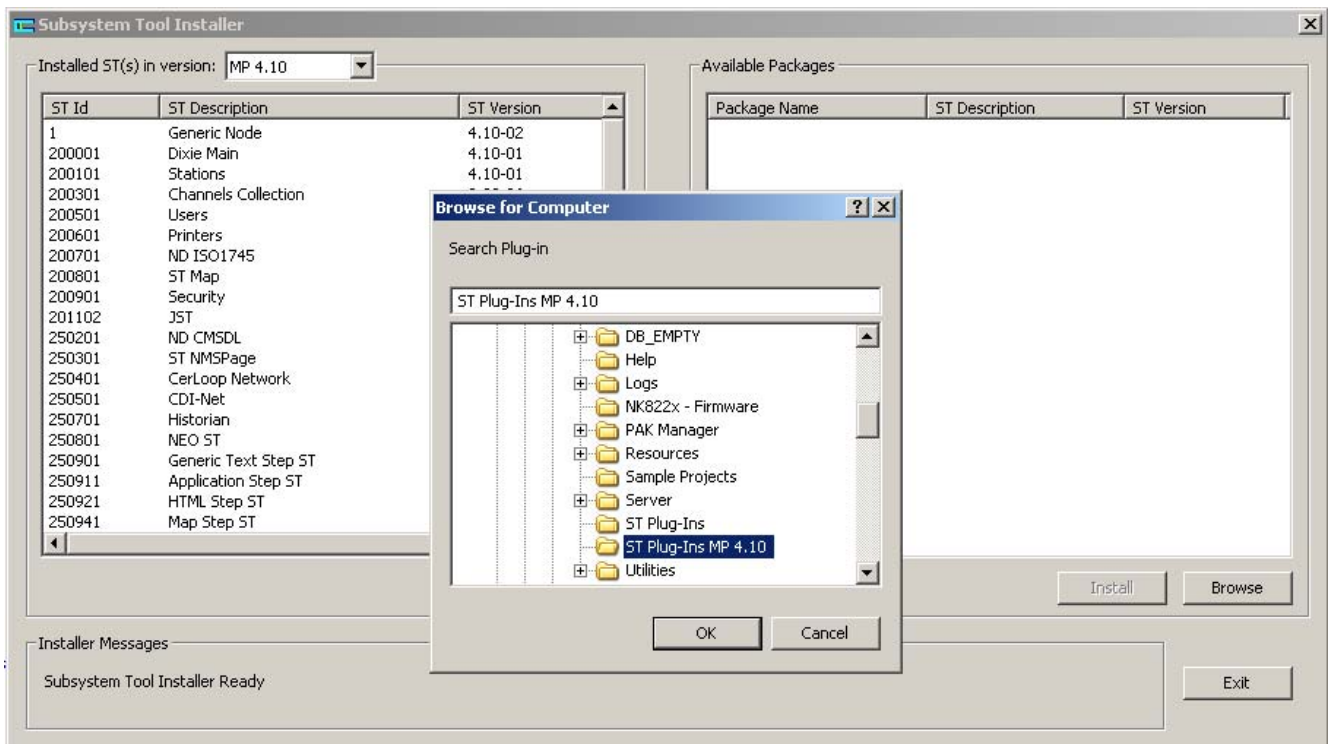

Fig 5 Installing the Composer Plug-ins
2. In the right pane, select “Browse” and locate the Plug-in folder (see Fig 5).